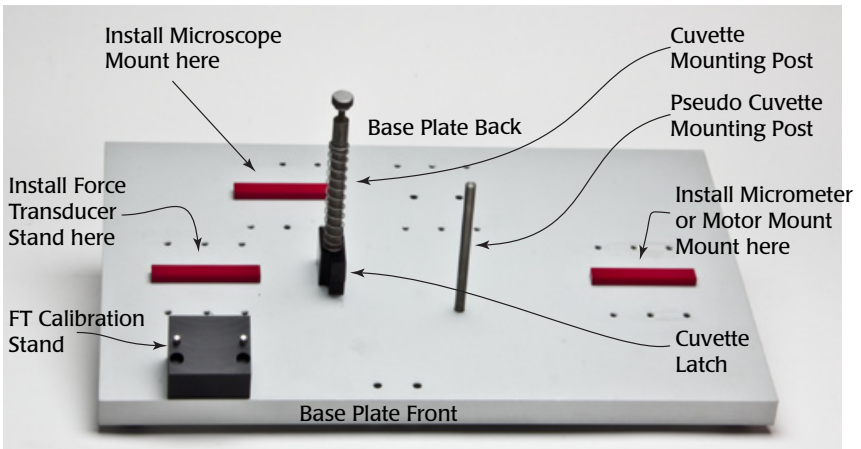
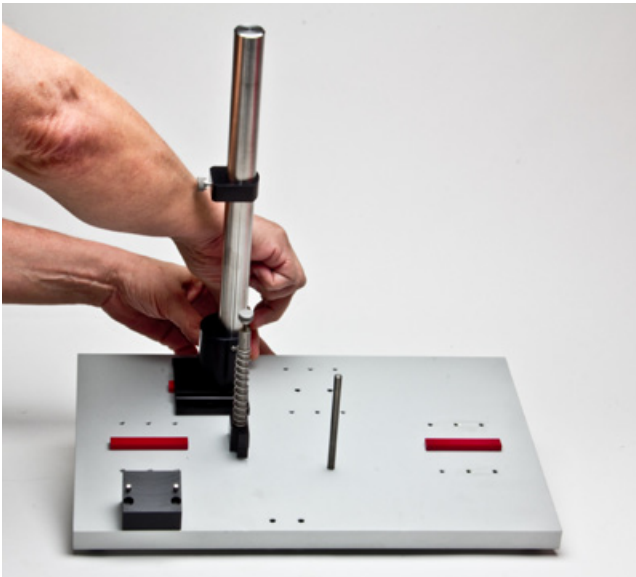

Fig. 2— Microscope mast and base plate assembly
Fig. 3—Microscope mast installed
1. Position the base of the microscope mast so that the mounting slots on the mast align with the screw holes on the back side of the base plate (**Fig. 2**). Choose four holes and insert four screws through the slots on the base of the microscope mast and into the screw holes. (Start with the four middle holes ad center the microscope mast over them. The position of the microscope is flexible, depending on the screw holes you choose and how you position the mast. Tighten the thumb screws (**Fig. 3**) to secure the mast in place.